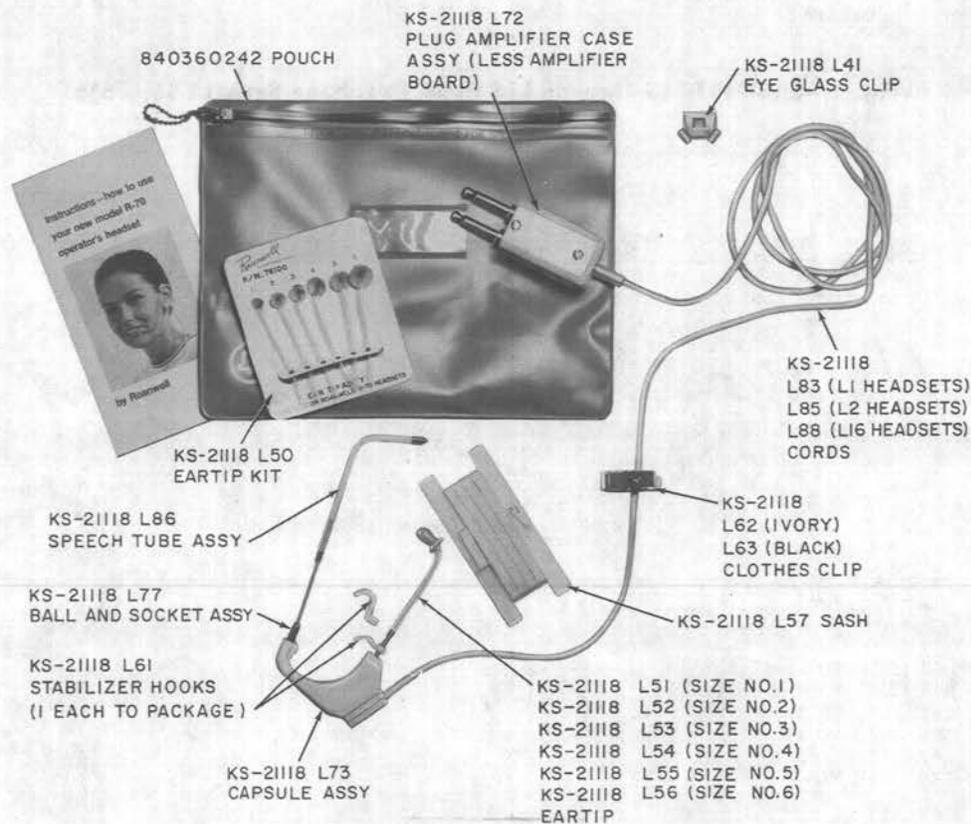

Fig. 1—KS-21118 L1, L2, and L16 Head Telephone Sets (L2 Shown)
- To revise Fig. 1, 2, 3, 4, 8, 11, and 12
1.03 The KS-21118 head telephone sets (Fig. 1 through 4) are lightweight sets which are supported by the ear. Miniature magnetic transducers are used for the transmitter and receiver units. The L1 through L16 headsets are identical to the L21 through L36 headsets except for the shape of the plastic capsule. An instruction booklet is furnished with each headset illustrating how the headsets should be worn.
4.01 Fig. 1 through 4 and 6 through 9 show the relationship of the various parts of the head telephone sets. The replacement part numbers of these parts are given together with the names as listed by the Western Electric Company Merchandise Department.